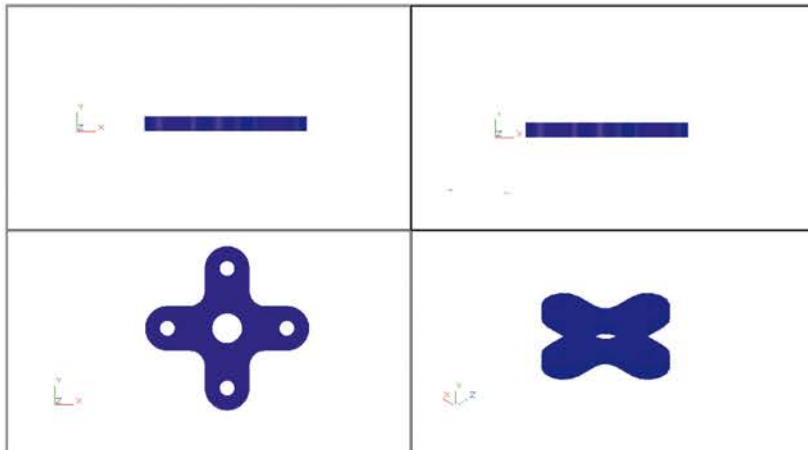

Fig. 10.8 First example – the four viewports after **Extrude** and **Subtract**
5. With **Subtract** from the **Home/Solid Editing** panel, subtract the holes from the plate (Fig. 10.8).